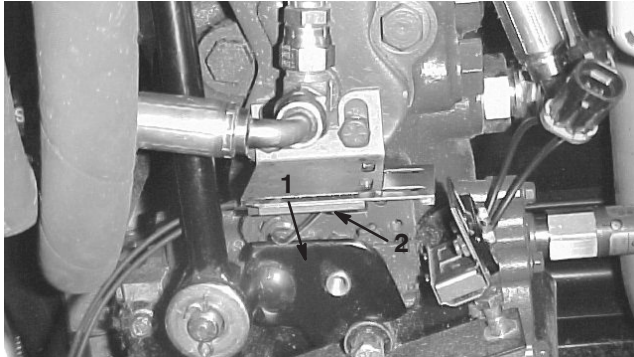

Figure 12
- 14.** Remove the two fasteners from the cover on the bottom of the Hydrostat. Install the mechanical switch so that the arm on the switch is in contact with the cam neutral device (approx. 3/8” in from outer edge of cam). Engage the switch by sliding it towards the cam until a click is heard. Slowly slide the switch away from the cam until it clicks again (resets) (Fig. 12).